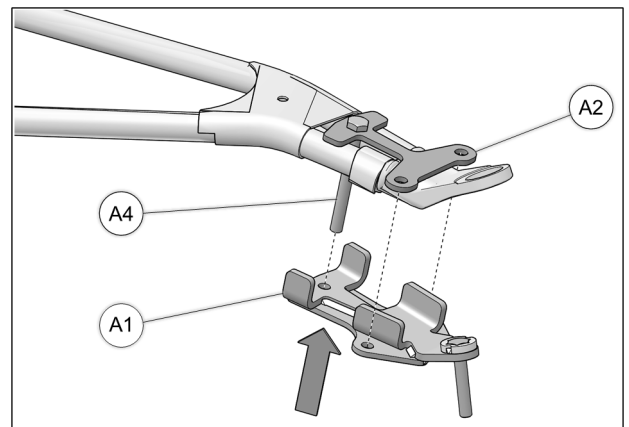

Fig. 15
6. Position bottom part of anchor bracket assembly (A1) under lower suspension arm. Pull back end of bracket (A1) up over bolt (A4) already installed in cover (A2). Refer to Fig. 15